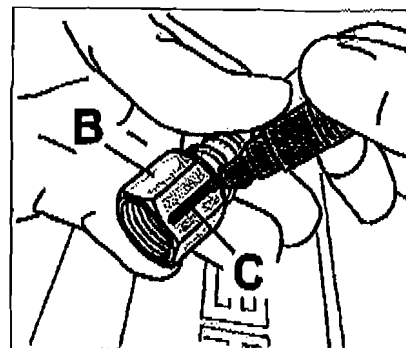

Figure 4
- 4.5 Hold the fuel line as shown in ⇒ Figure 4 and apply another marking (in black, for example) on the hexagon on the fuel line using a water-resistant colored pen. The new marking ⇒ Figure 4 -C- must be applied as shown in ⇒ Figure 4, i.e. in the middle of the flat area of the hexagon, below the area with the white marking ⇒ Figure 4 -B-.